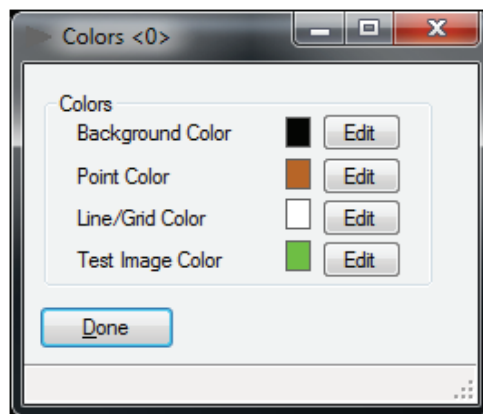

Figure 5-15. Set colors control box
- Set Colors. Set the color for background, lines, control points and internal test patterns, see Figure 5-15.